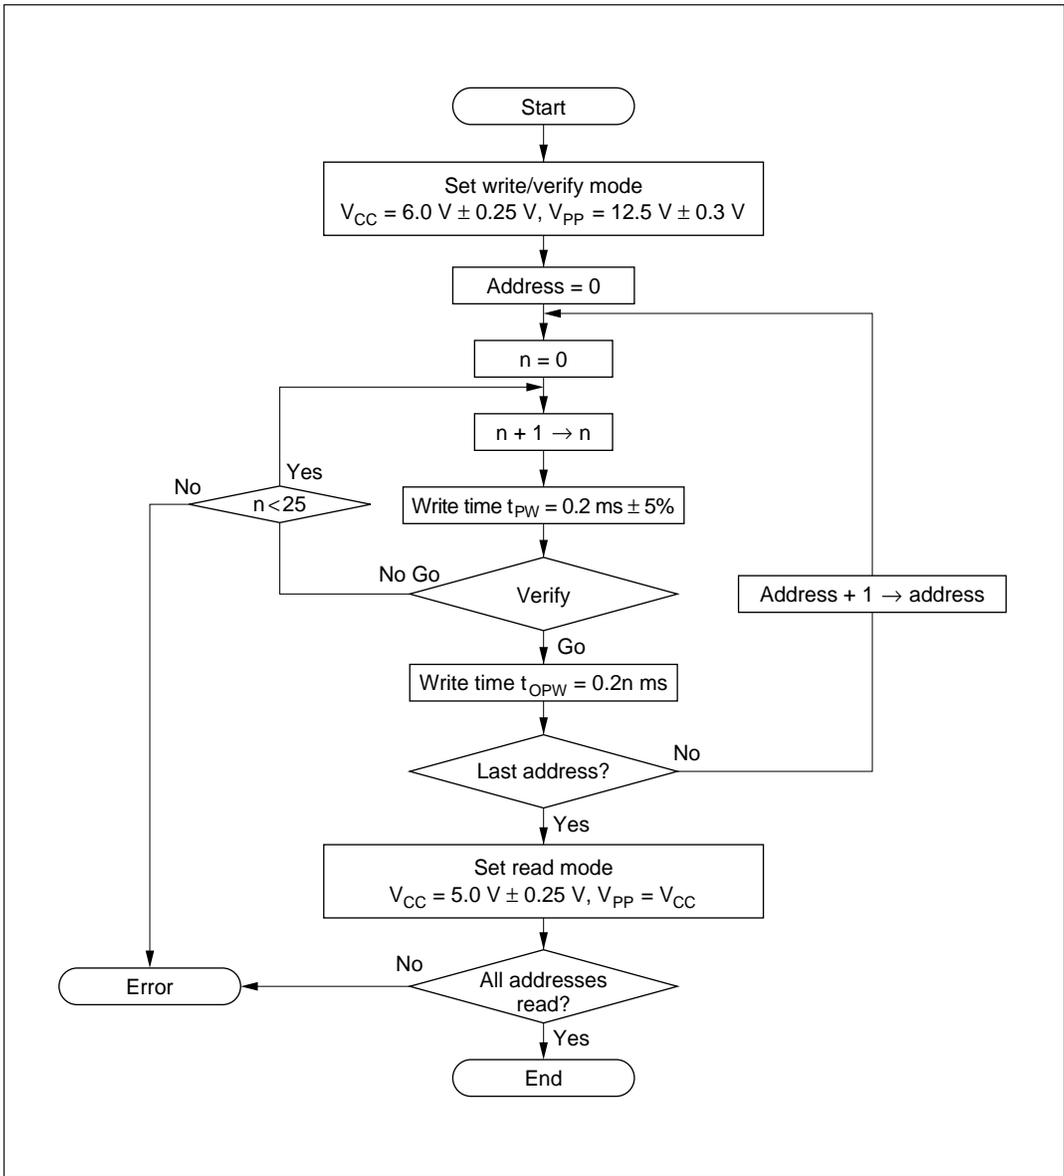

Figure 6-4 High-Speed, High-Reliability Programming Flow Chart
An efficient, high-speed, high-reliability method is available for writing and verifying the PROM data. This method achieves high speed without voltage stress on the device and without lowering the reliability of written data. The basic flow of this high-speed, high-reliability programming method is shown in figure 6-4.
3. t_{OPW} is defined by the value given in figure 6-4 high-speed, high-reliability programming flow chart.